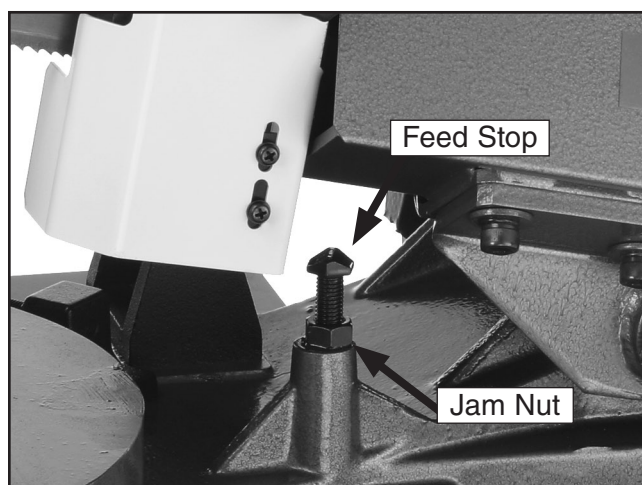

Figure 13. Feed stop.
1. Adjust the feed stop bolt and jam nut (**Figure 13**), so the bandsaw blade teeth are just below the vise table surface when the cut is complete.